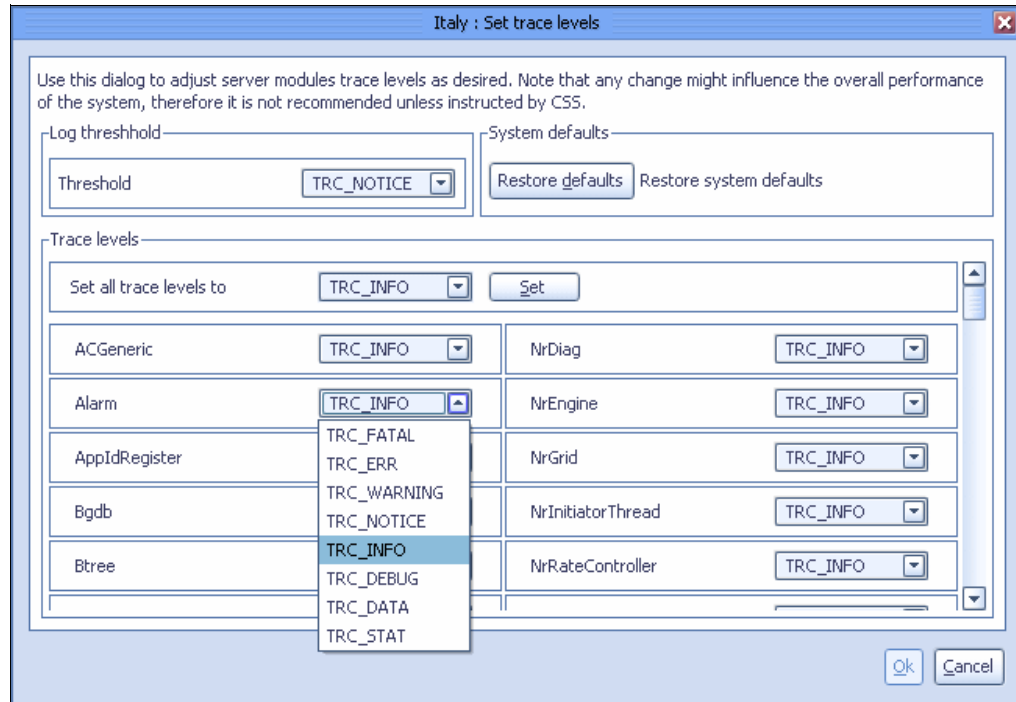

Figure 10-106 Set trace level window
2. Select **Node** → **Set trace levels**. The Set trace levels window opens (Figure 10-106).